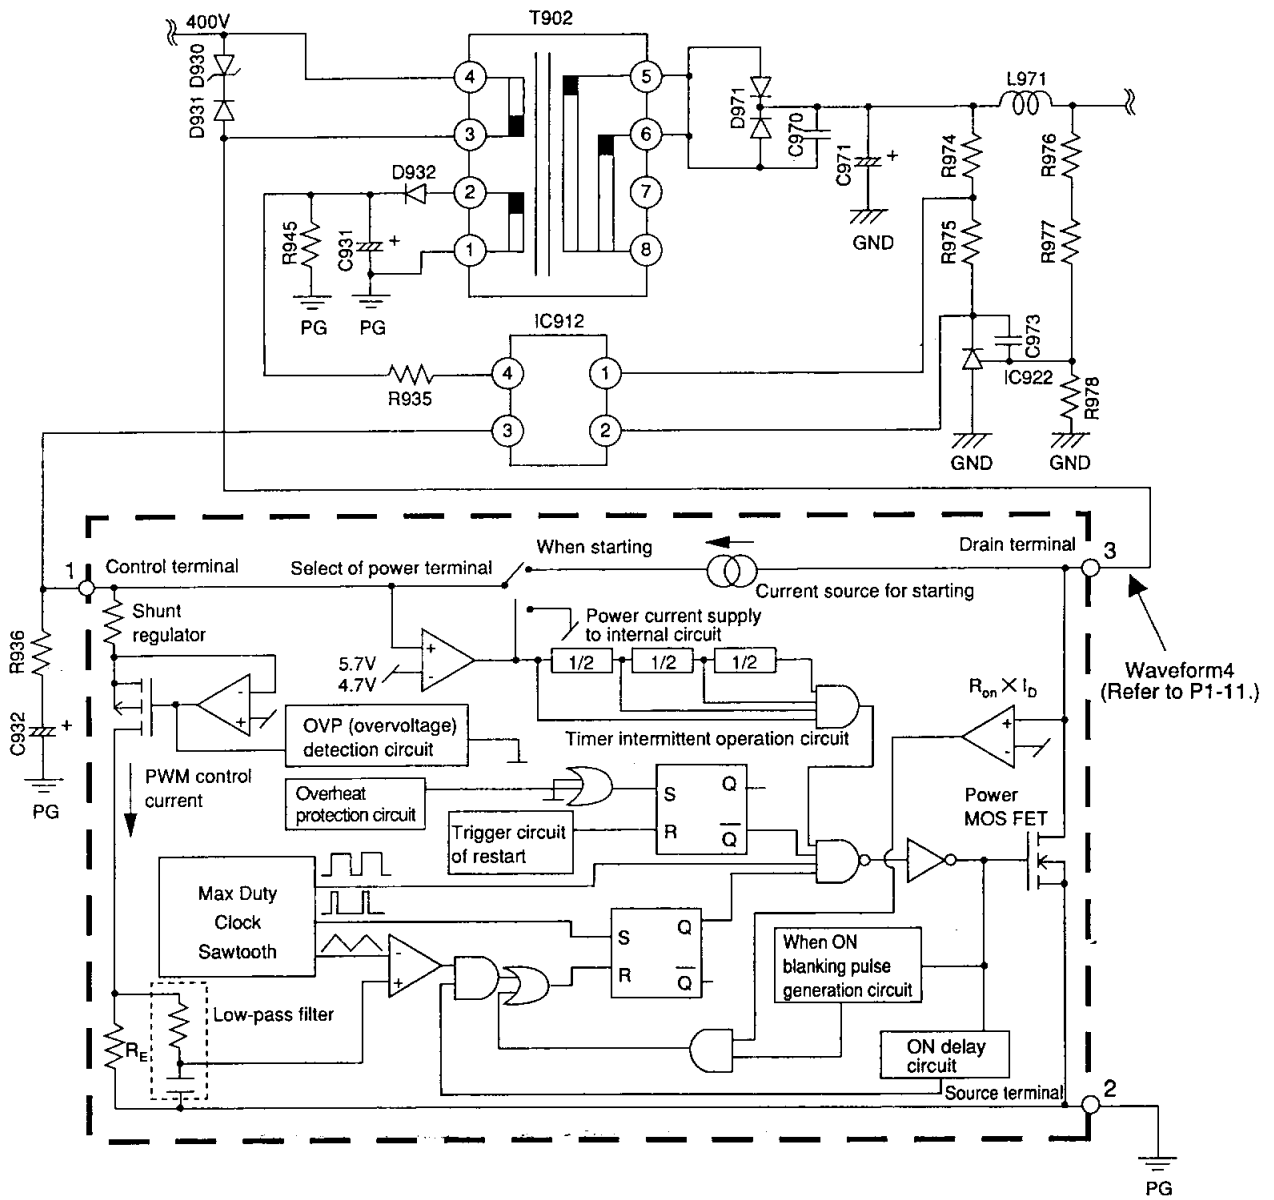

Figure 3. IC903 (MIP0223Y) block diagram and peripheral circuit
- (1) The sub power uses the self-excited type regulator MIP0223SY produced by Panasonic. (See Fig.3)
- (2) When the power switch is turned ON, the rectified and smoothed DC voltage (AC voltage $\times \sqrt{2}$) is supplied to Pin 3 of IC903, and is charged to C932 through Pin 1. When Pin 1 reaches 5.7V, the current supply from Pin 3 is cut off to start oscillation (approx. 100kHz) in IC903, and the output FET is put into operation. (Since Q902 is OFF, IC902 and IC903 do not operate.)
- (3) This also induces the voltage at Pin 2 of T902 and on the secondary side. These outputs are respectively rectified, and are used as the power for control on the primary side and the power for the MPU and heater.
- (4) The voltage induced on the secondary side is fed back to the primary side through IC912 (photocoupler) from the constant voltage circuit that uses IC922 (shunt regulator). The circuit supplies and controls the power for control on the primary side to Pin 1 of IC903 via R935 in order to suppress the voltage fluctuation on the secondary side.
- (5) When the voltage on the secondary side starts, the MPU will be put into operation and the P-SUS signal line will become HIGH.
- (6) This information is transmitted to the primary side via IC913 to turn ON Q902. When Q902 is turned ON, the power for control on the primary side will be supplied to IC901 and IC902 to operate the higher harmonic circuit. Thus, the main power circuit will be put into operation.